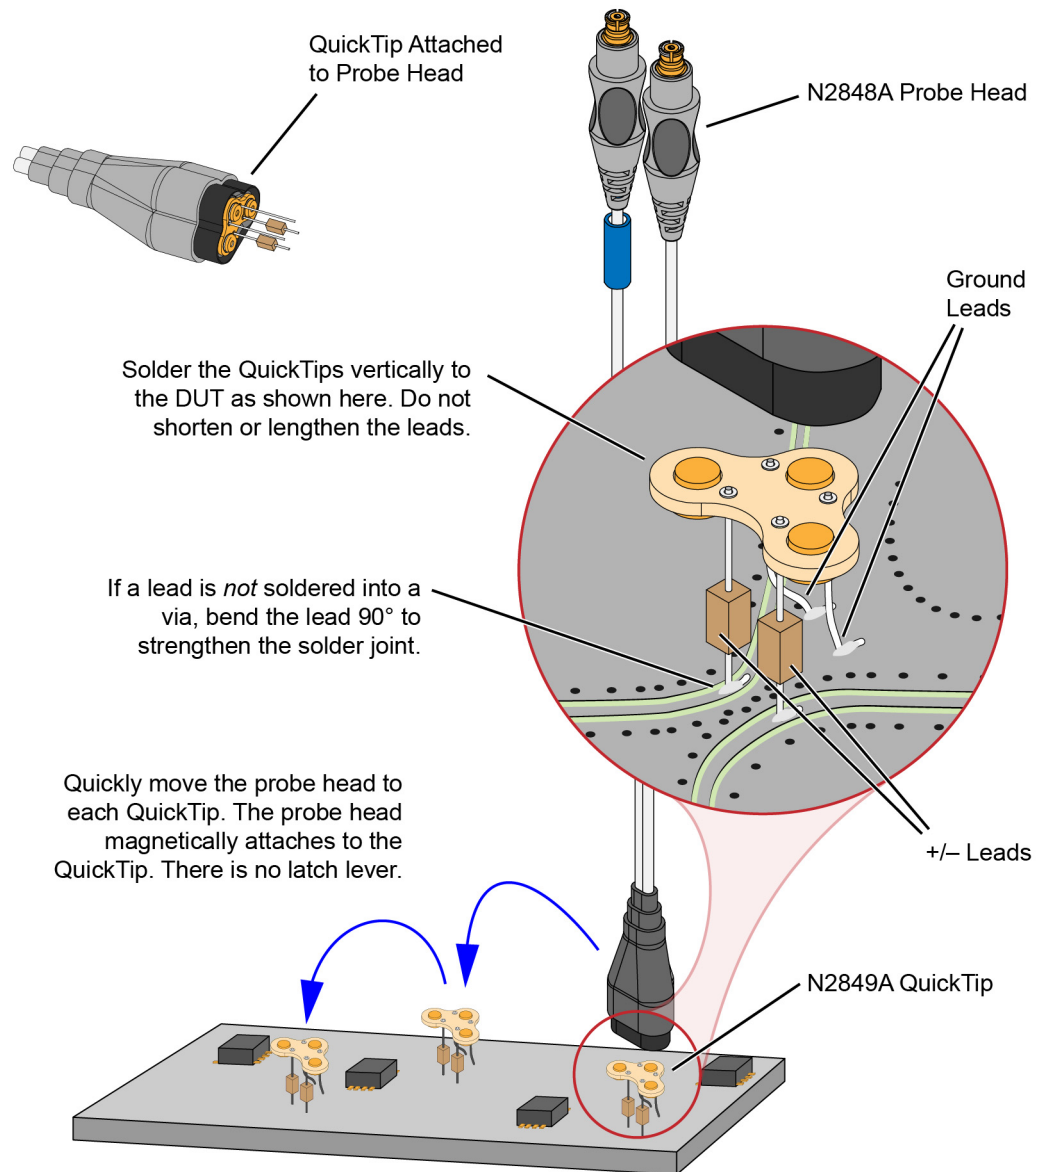

Figure 56 Probing with the N2848A Probe Head and QuickTip
Permanently solder any number of QuickTips to your DUT as shown in Figure 56 on page 69. Because the probe head is magnetically connected (instead of mechanically connected) to the QuickTip, you can effortlessly connect and disconnect to each QuickTip. For best performance, position the QuickTip vertically on the DUT. Because this is an InfiniiMode compatible head, the tip has two signal leads and two ground leads. To learn about InfiniiMode, refer to “To Use
- Orient the QuickTip vertically as shown in Figure 56 on page 69.